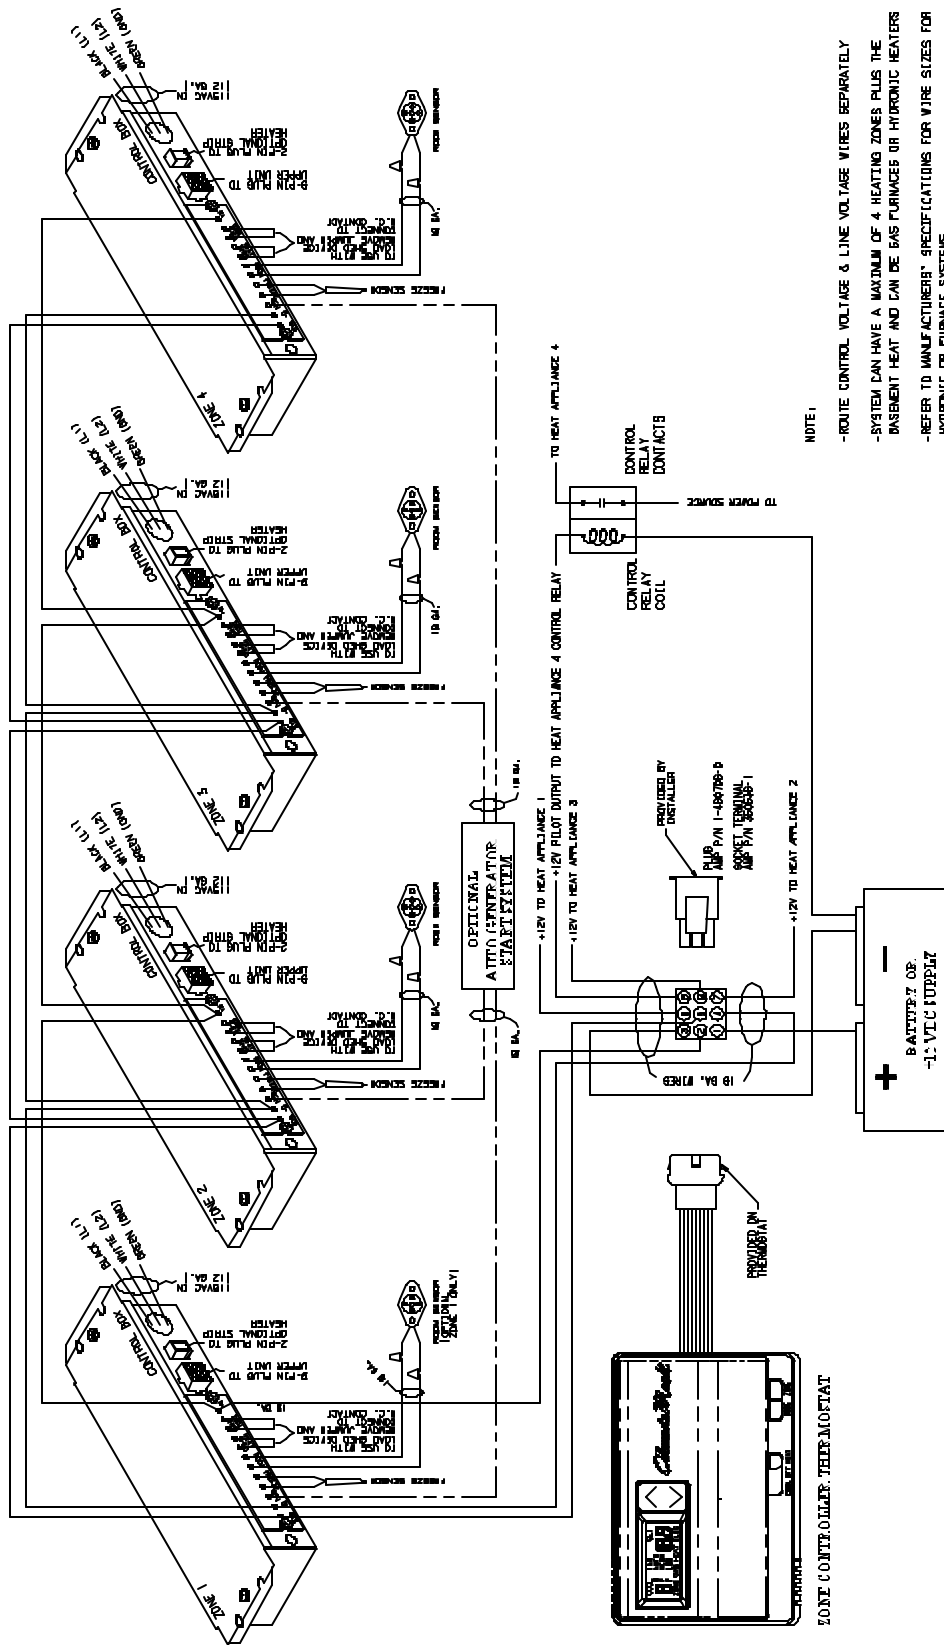

FIGURE 5
- (2) Any color for heat load shed (optional)
- B. See Figure 5 for wiring requirements for multiple zones.
Zone 2 is wired in by jumpering from SIG, B- and R+ on Zone 1 box to Zone 2 box. Zone 3 is wired in by jumpering from SIG, B- and R+ on Zone 2 box to Zone 3 box. Zone 4 is wired in by jumpering from SIG, B- and R+ on Zone 3 box to Zone 4 box (See Figure 5).